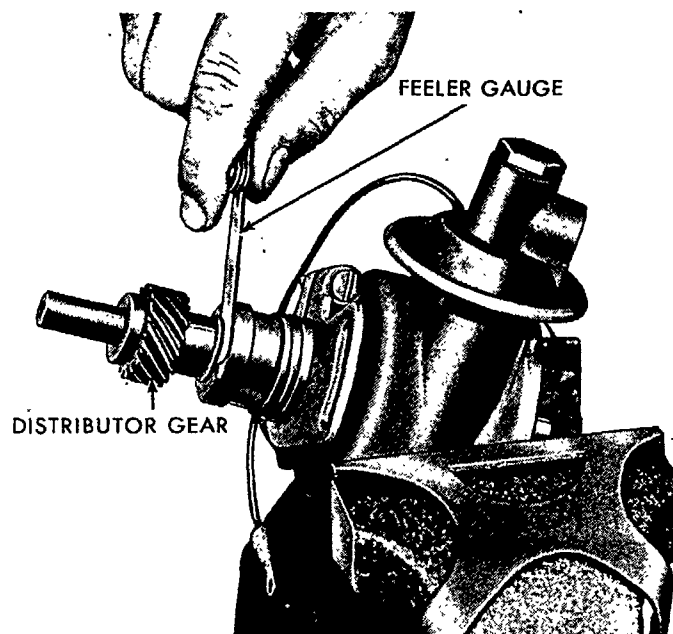

Figure 69
6. Check the shaft gear end play with a feeler gauge placed between the gear and distributor base, Figure 69. Refer to page 69, for the acceptable distributor shaft end play limits.